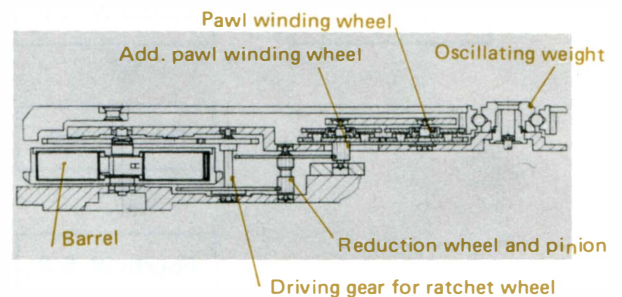

Fig. 7
- A clutch wheel system is adopted in the automatic winding train wheels (Fig. 7).